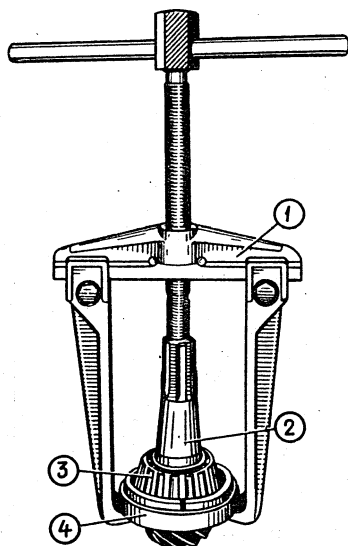

Fig. 3-63. Removing the Drive Pinion Rear Bearing Inner Race:
- remove the spacer sleeve from the drive pinion and, using remover tools A.40005/1/7 and A.45008 (Fig. 3-63), remove the inner race of the rear roller bearing;